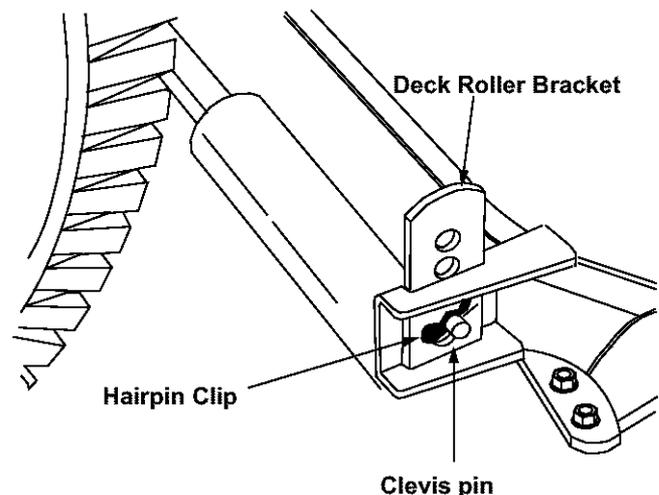

Figure 6
both the left-hand deck roller bracket and the right-hand deck roller bracket. See Figure 6 or refer to **Deck Roller Height Adjustment** on page 9 for more detailed instructions on adjusting the deck roller upward or downward.
- Pull the deck support pin (on the left side of the deck) outward and align it with the hole on the rear of the left deck lift arm before releasing the pin to lock it in place as shown in Figure 6. Repeat on the right side.
- Remove the clevis pins and hairpin clips from the deck roller brackets on the left and right sides of the cutting deck. See Figure 6.
- Position the deck roller brackets up or down through the slots on the rear of the deck until desired position is reached, then re-attach with the clevis pins and hairpin clips just removed. See Figure 6.